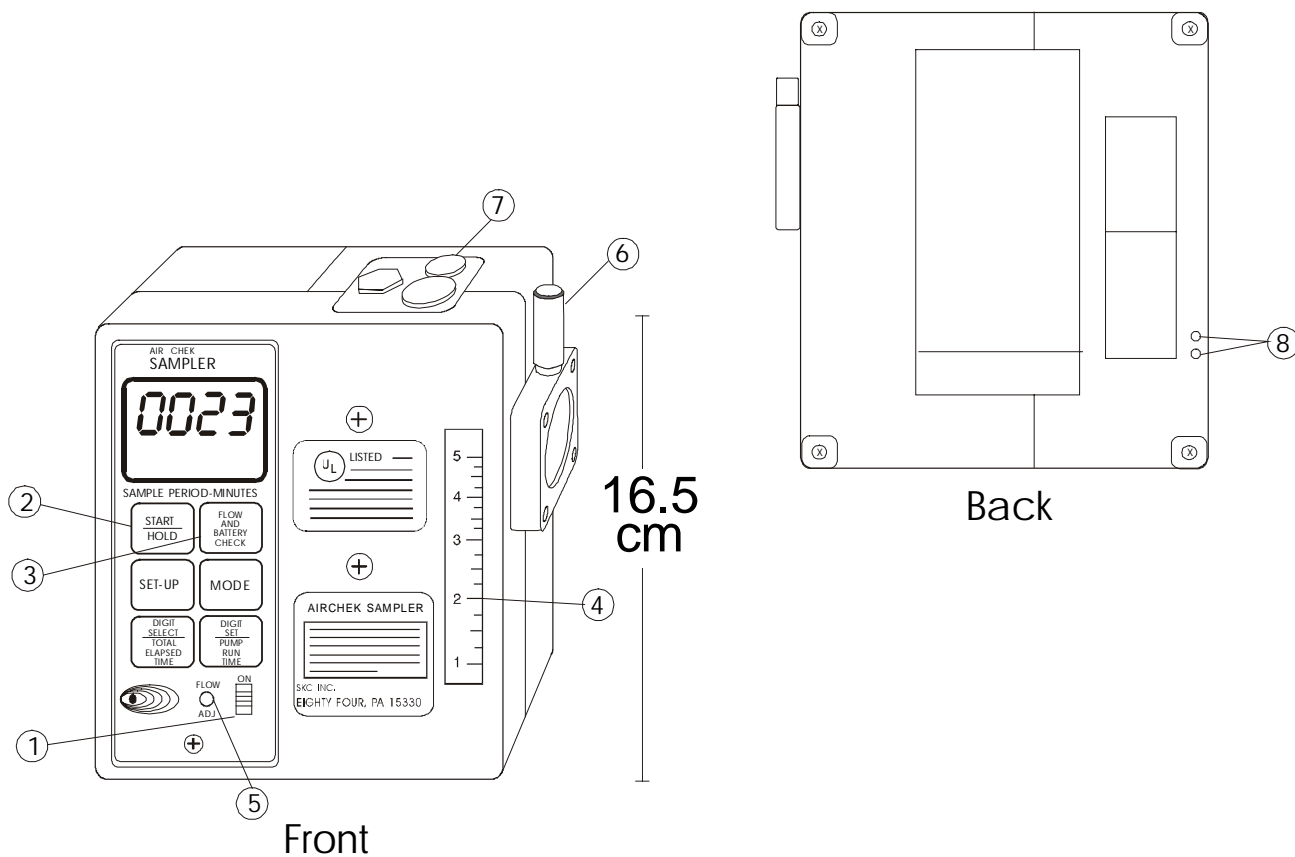

Figure 1. Low Flow Personal air sampler
- 3.2.1.1 Charge SKC personal sampler pump for a minimum of 14 hours by connecting charger plug to sampler charging jack (Figure 1, #8), unless using AC power to run pump.
- 3.2.2.1 Charge SKC personal sampler pump for a minimum of 14 hours by connecting charger plug to sampler charging jack (Figure 1, #8), unless using AC power to run pump.